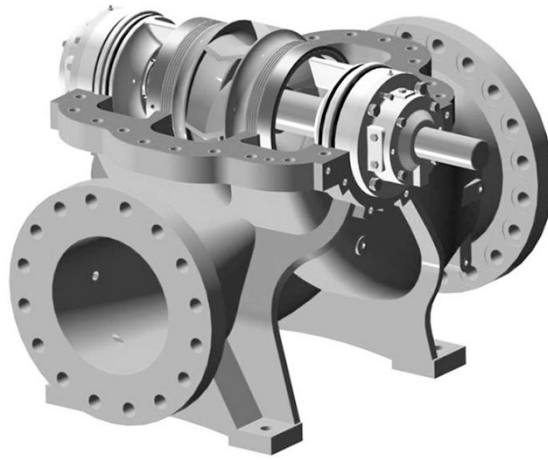

Figure 46: Rotating assembly installed within lower casing
30. Set the rotating element in the pump casing, assuring correct rotation. Locate both seal body tongues in their respective casing grooves. Locate the pins in the seal body and casing wear ring in their respective slots at the casing parting surface. Correct any O-ring bulging. (see Figure 46)